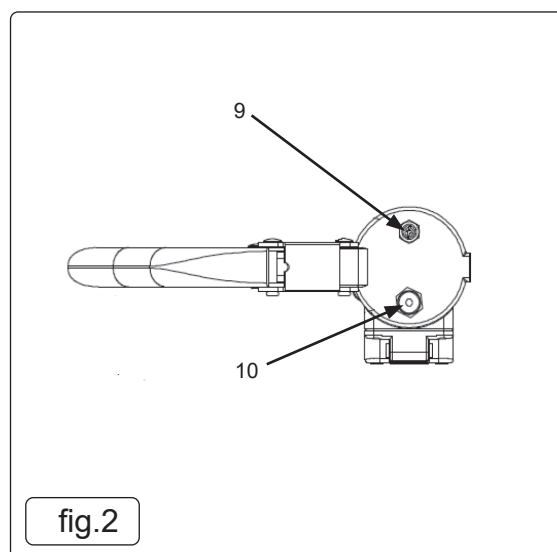

fig.2
- 4.2.4. Depress the air vent valve (fig.2).
- 4.3.4. Mount grease gun head back onto the barrel, depress the air vent valve (fig.2).
- 4.4.1. Connect delivery mechanism from dispenser to the gun head filler plug (fig.2).